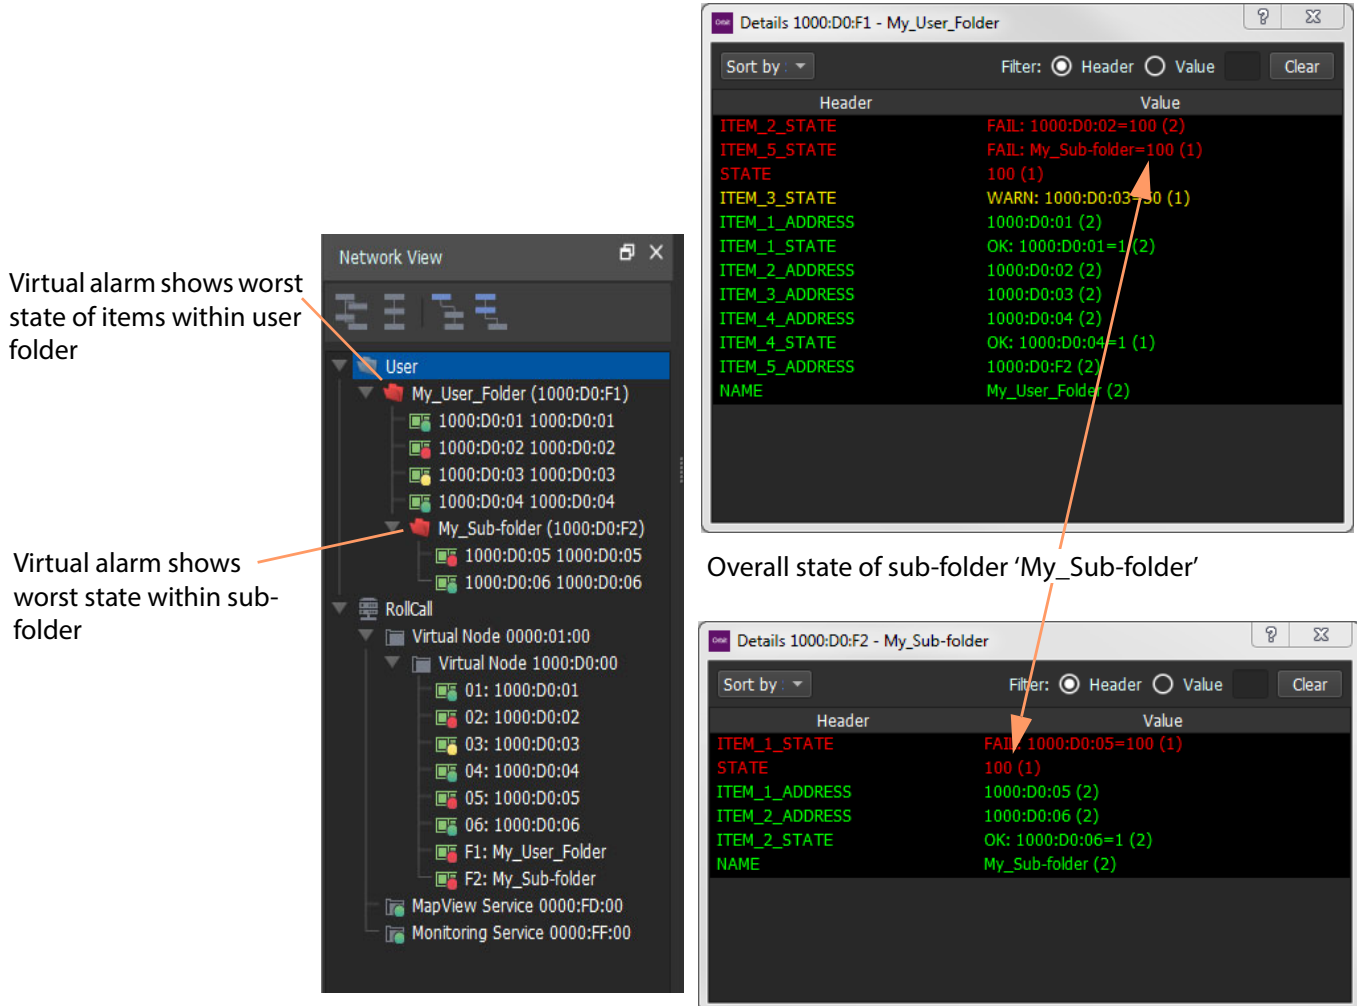

Fig. 9-32: Virtual Alarm with Device Warning and Failure States
- When devices send out 'warning' or 'fail' state log messages, the device state is correspondingly shown in the user folder. Sub-folder states are reflected in their parent folder's state. (Alarms 'ripple upwards'.) See Figure 9-32.